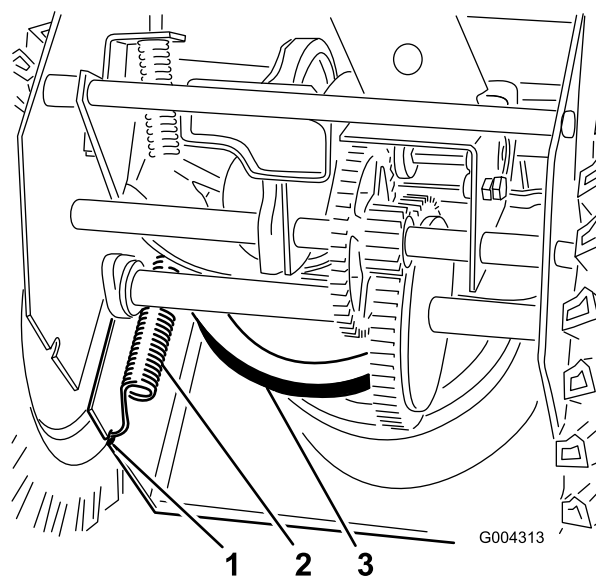

Figure 32
7. Disconnect the spring from the notch in the bottom edge of the side plate (Figure 32).
13. Hook the spring into the notch in the bottom edge of the side plate (Figure 32).